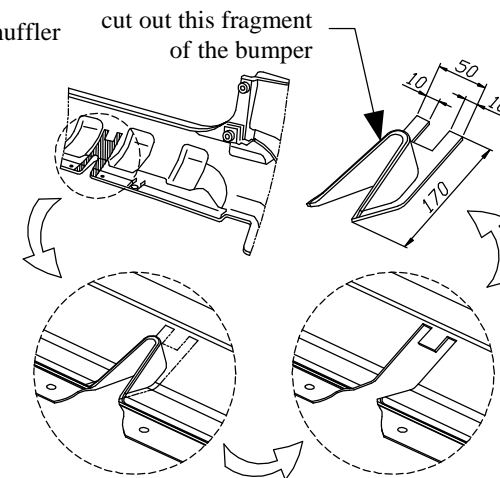

Fig. 3. Cut the bumper
7. Reassemble the bumper after cut out its fragment according to figure 3.